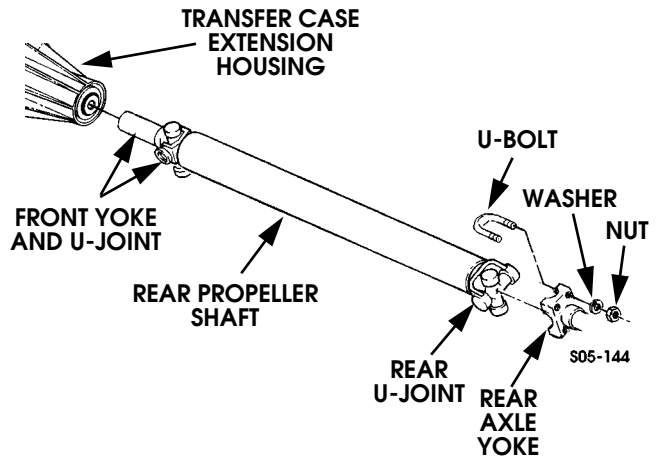

Figure 9-118: Rear Propeller Shaft Attachment
1. Remove U-bolts, attaching rear shaft to rear axle yoke (Figure 9-118).